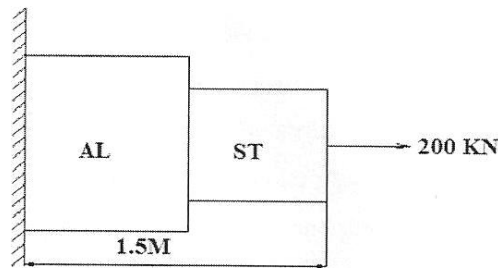

Fig. 2b
b. a compound bar made of aluminium and steel subjected to a load of 200 kN is shown in (8) figure 2b . The cross-sectional area of aluminium section is twice the steel section . If the elongation of the two section is equal, determine the length of each section